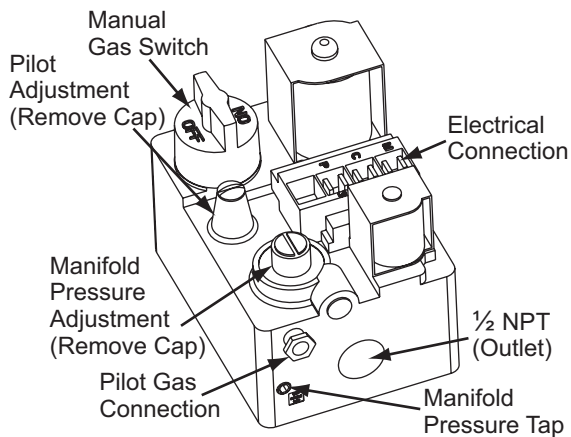

FIGURE 10 - GAS VALVE - FRONT
Small adjustments to the gas flow may be made by turning the pressure regulator adjusting screw on the automatic gas valve. Refer to Figure 10.
- Remove the cap from the valve body. See Figure 10 for location.